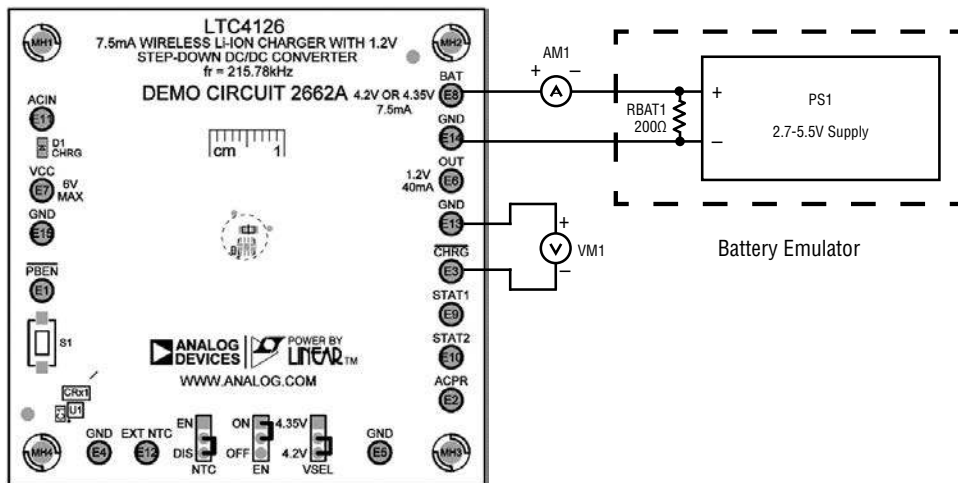
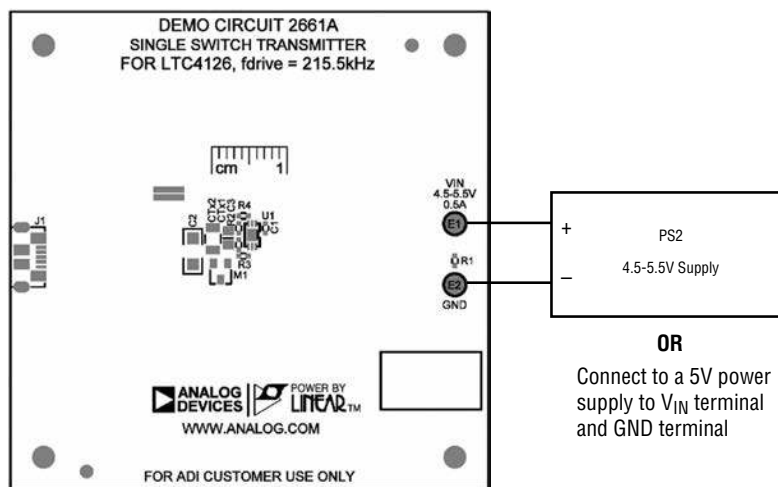

Figure 5. DC2662A Top
Figure 6. DC2661A Top
Refer to Figure 5 and Figure 6 for the proper measurement equipment setup, DC2662A mounting on DC2661A, and follow the procedure below:
1. Plug a Micro-USB cable into DC2661A.J1, with the other end of the cable connected to a computer USB port or a 5V wall wart. The demo may also be powered by applying 4.5-5.5V between  $V_{IN}$  terminal DC2661A.E1 and GND terminal DC2661A.E2 (Figure 6).
2. Connect a voltage source PS1 and a 200 Ohm resistor RBAT1 between the BAT and GND terminals DC2662A.E8 and DC2662A.E14, respectively (Figure 5). PS1 and RBAT1 make up the battery emulator. Typical power supplies cannot sink current. By adding a resistor across the power supply inputs that draws more current than the maximum battery charging current, the power supply only sources current even when the battery charge current is at its maximum value.
The WPT for the LTC4126EDC is implemented as resonant power transfer, with the LTC4126EDC rectifying the resonant tank voltage to generate  $V_{CC}$ . The LTC4126EDC keeps the voltage at  $V_{CC}$  always within 5-5.5V when regulating received power from the WPT transmitter. When the  $V_{CC}$  voltage reaches a maximum of 5.5V, an input shunt is activated that diverts the received power. When the voltage at  $V_{CC}$  drops to 5 Volts, the shunt is deactivated, and the power is delivered and rectified through ACIN again until  $V_{CC}$  rises to 5.5V (see Figure 5).